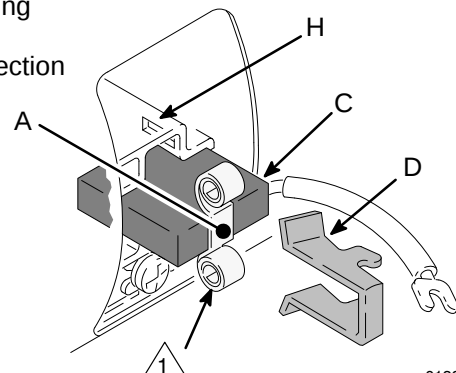

Fig 16
6. Install a new brush (C) so the lead is in the long slot of the holder. See Fig 16.
8. Place the spring (A) on the brush (C). See Fig 16.
9. Install the spring clip (D) and push it down to hook the short slots (H) in the brush holder. See Fig 16.